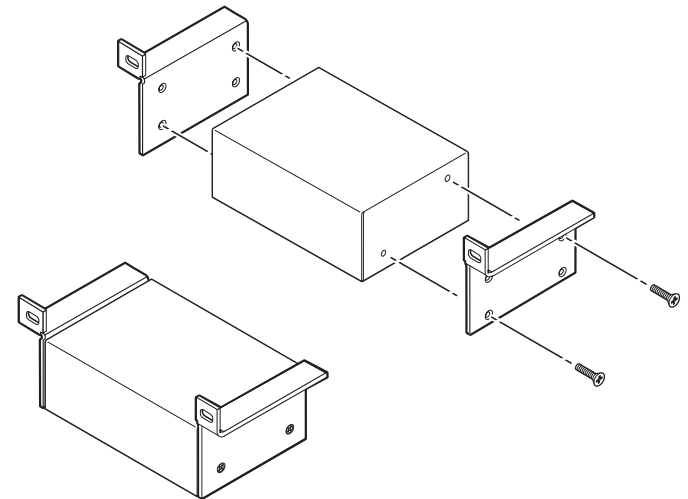

Figure 2-4 — Attaching the back of rack mounting brackets to the YCS SW2
3. Attach one bracket to the side of the unit, using the longer screws included in the mounting kit (see figure 2-4, below).